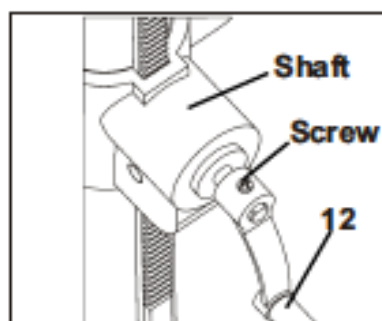

Fig 5b
- Secure the Crank(12) to the Shaft using the Screw against the flat part of the Shaft. **(Fig 5b)**